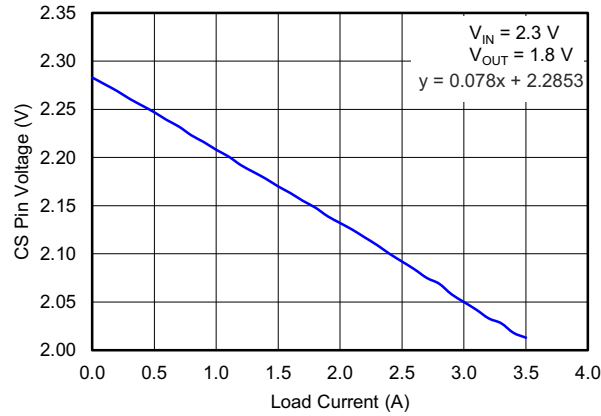

Figure 3-4. V_{CS} (V) vs I_{OUT} (A)
Monitoring the voltage at the CS pin will indicate voltage proportional to the output current. Figure 3-4 shows typical curve V_{CS} vs I_{OUT} for $V_{in} = 2.28\text{ V}$ and $R23 = 3.65\text{ k}\Omega$. A resistor connected from current sense (CS) pin to V_{IN} indicates voltage proportional to the output current.